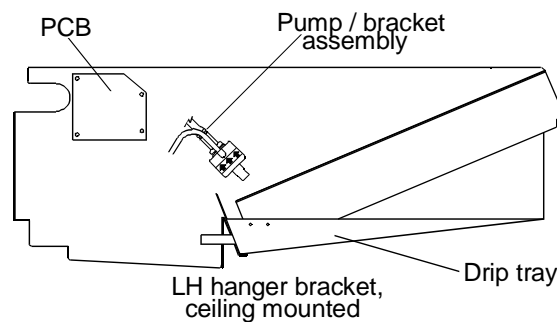

Fig. 4.
- 2 Locate and secure the pcb assembly in the left hand hanger bracket, (Fig. 4).
- 5 Using 2 x No. 6 screws, supplied loose, secure the pump/bracket assembly to the left hand hanger bracket at the angle shown in Fig. 4. **Use one of the screws to connect the earth (green/yellow) cable ring terminal between the pump bracket and the hanger bracket.**